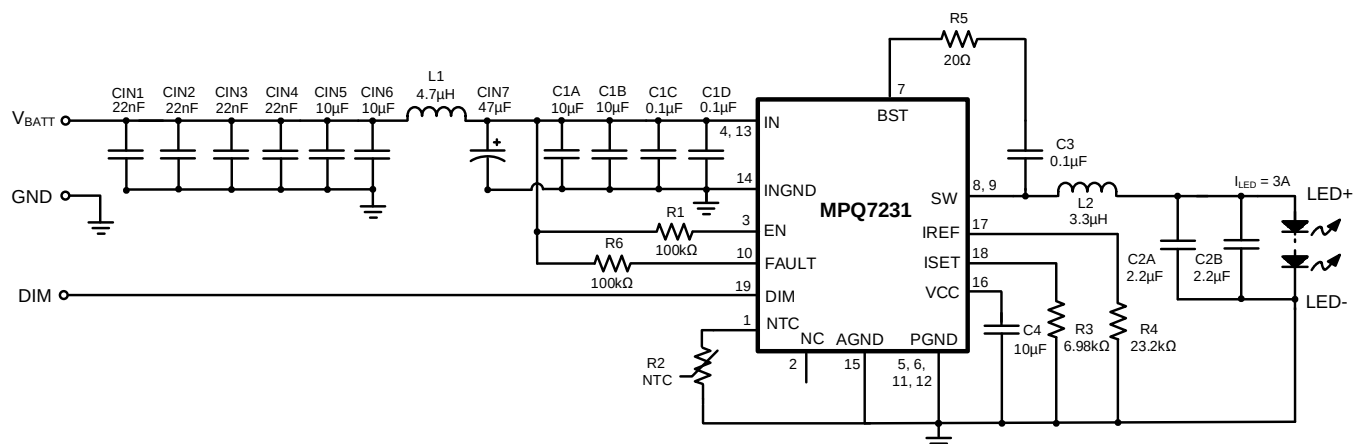

Figure 10: Typical Application Circuit (I_{LED} = 3A Buck)
- 17) The recommended layout is based on Figure 10 on page 46.